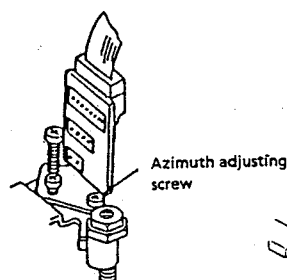

Figure 1-59.
- Use the alignment tape and play back its audio 7 kHz signal (monoscope pattern for video signal). Adjust the azimuth adjusting screw to obtain the maximum audio output on an oscilloscope. (See Figure 1-59.)